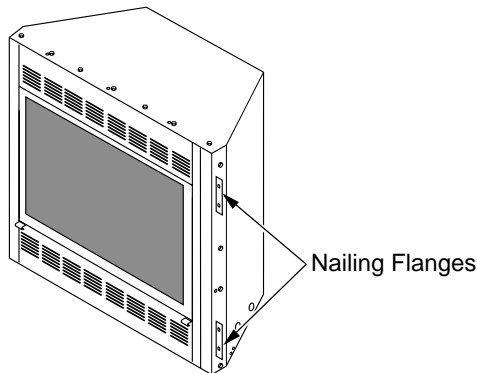

Figure 32 - Location of Nailing Flanges (EFP33PR Shown)
7. Break off nailing flanges (see Figure 32, page 19) with hammer or pliers.